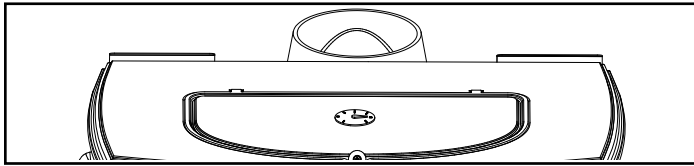

Figure 38 - Take temperature readings with a thermometer located in the middle of the griddle.
4. **If your Encore® has been broken-in previously** using Steps 1-3, continue to build the fire gradually. Add larger wood with a diameter of 3-4" (75-100 mm). Continue adding split logs of this size to the briskly-burning fire until there is a glowing ember bed 2-3" (51-75 mm) deep. (Figure 38) A good ember bed is necessary for proper functioning of the combustion system.
An optional surface thermometer tells you when to adjust the air control, and when to refuel. (Figure 38)